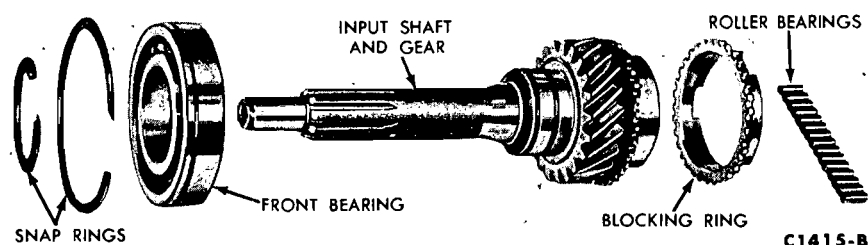

FIG. 16—Input Shaft Gear — Disassembled
1. Remove the snap ring securing the input shaft bearing (Fig. 16), and press the input shaft out of the bearing.
10. Coat the bore of the input shaft and gear with a thin film of grease. A thick film of grease will plug the lubricant holes and prevent lubrication to the bearings. Install the bearings (Fig. 16) in the bore.